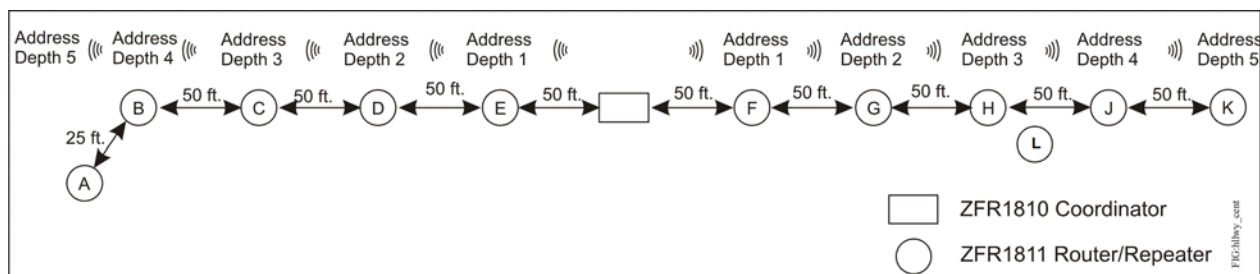

Figure 3: Address Depths
- When a wireless mesh network forms, it uses up to five address depths in assigning addresses for network communication. Refer to Figure 3. For more information, see Appendix C: Restricted Hallway Scenario.